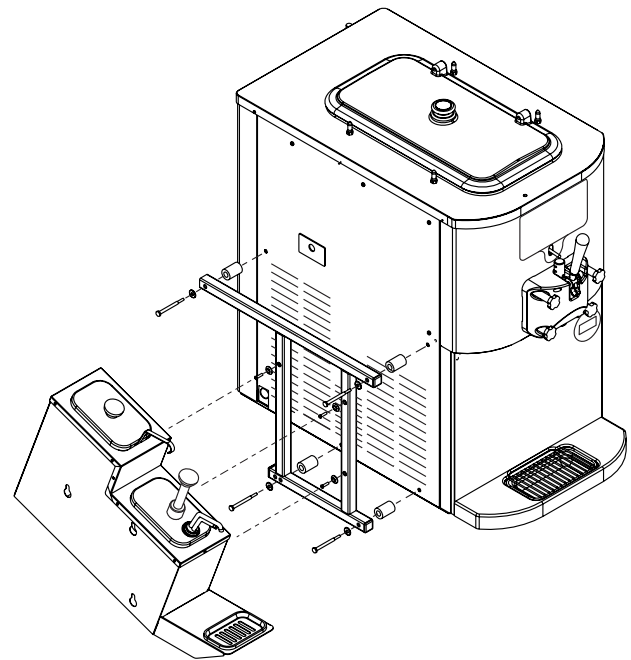

Figure 5
1. Remove the (4) panel screws as shown in Figure 5.